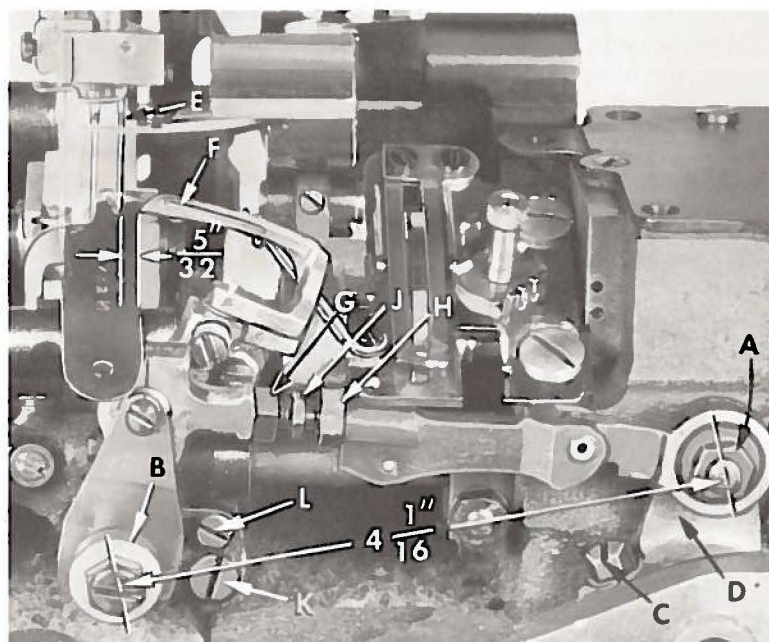

Fig. 6
With the looper at the extreme right end of its travel, check the location of the center line of the right looper connecting rod bearing, using gauge No. 21227 CX. Remove nut (A, Fig. 6) and place hole in gauge over threaded stud.
Insert a new set of needles, type and size as specified. Also insert front looper. The distance from the center of the right needle (E, Fig. 6) to the point of the front looper (F) should be  $\frac{5}{32}$  inch, when the looper is at its farthest position to the right. Looper gauge No. 21225-5/32 can be used advantageously to check this setting. If adjustment is required, loosen nut (G, Fig. 6) (it has a left hand thread) and nut (H)
The left end of the gauge should locate against the right side of the looper rocker cone (B). If adjustment is necessary, loosen the clamp screw (C, Fig. 6) and reposition the looper drive lever (D) as required. Tighten clamp screw. If gauge is not available, setting can be checked with a scale. The distance between the center line of the looper rocker cone and the centerline of the looper lever stud should be  $4 \frac{1}{16}$  inches (Fig. 6), when looper is at the extreme right end of its travel.